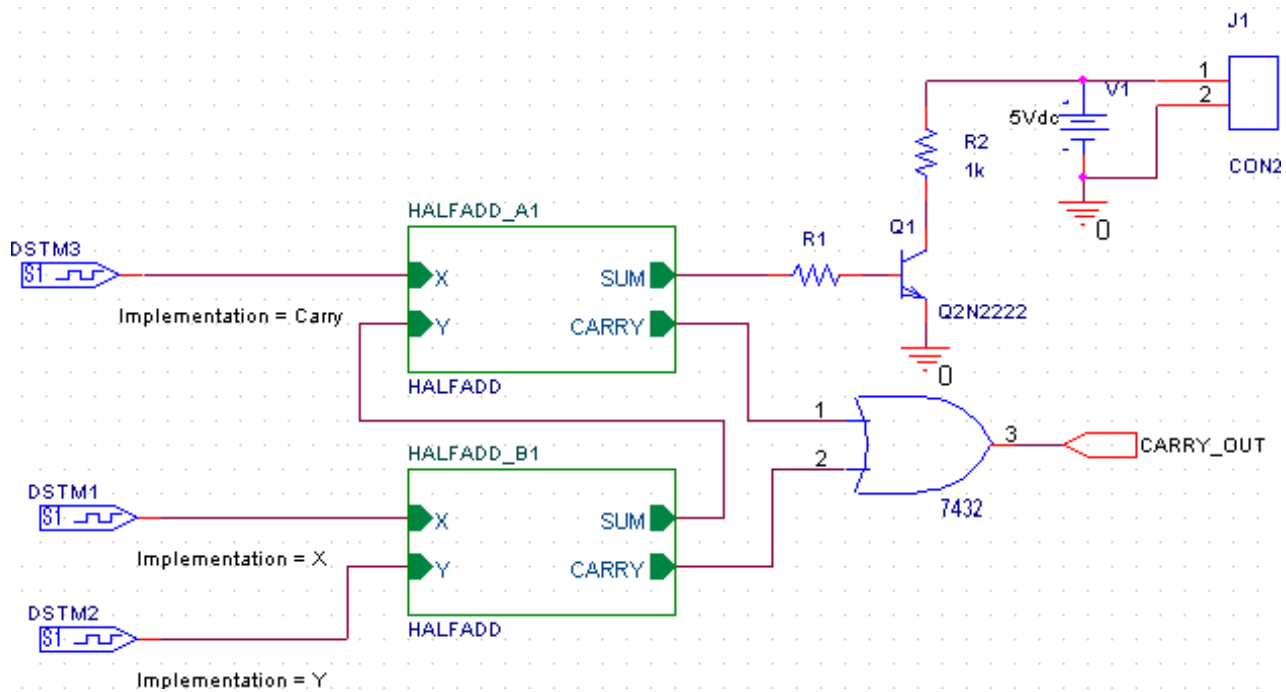

Figure 2-3 Full adder circuit with output through a transistor
- 5 From the part list, add resistor R. Place this resistor on the schematic and connected one end of the resistor to the SUM port of HALFADD_A1. See Figure 2-3 on page 29.
- 6 From the `BIPOLAR.OLB`, select `Q2N2222` and place it on the schematic. See Figure 2-3 on page 29.
- 7 From the `EVAL.OLB`, select `Q2N2222` and place it on the schematic. See Figure 2-3 on page 29.
- 8 Complete the circuit by adding a collector resistance, Collector Voltage, and ground. See Figure 2-3 on page 29.
- c. Place the voltage source on the schematic. See Figure 2-3 on page 29.
- d. Place the ground symbol on the schematic. See Figure 2-3 on page 29.